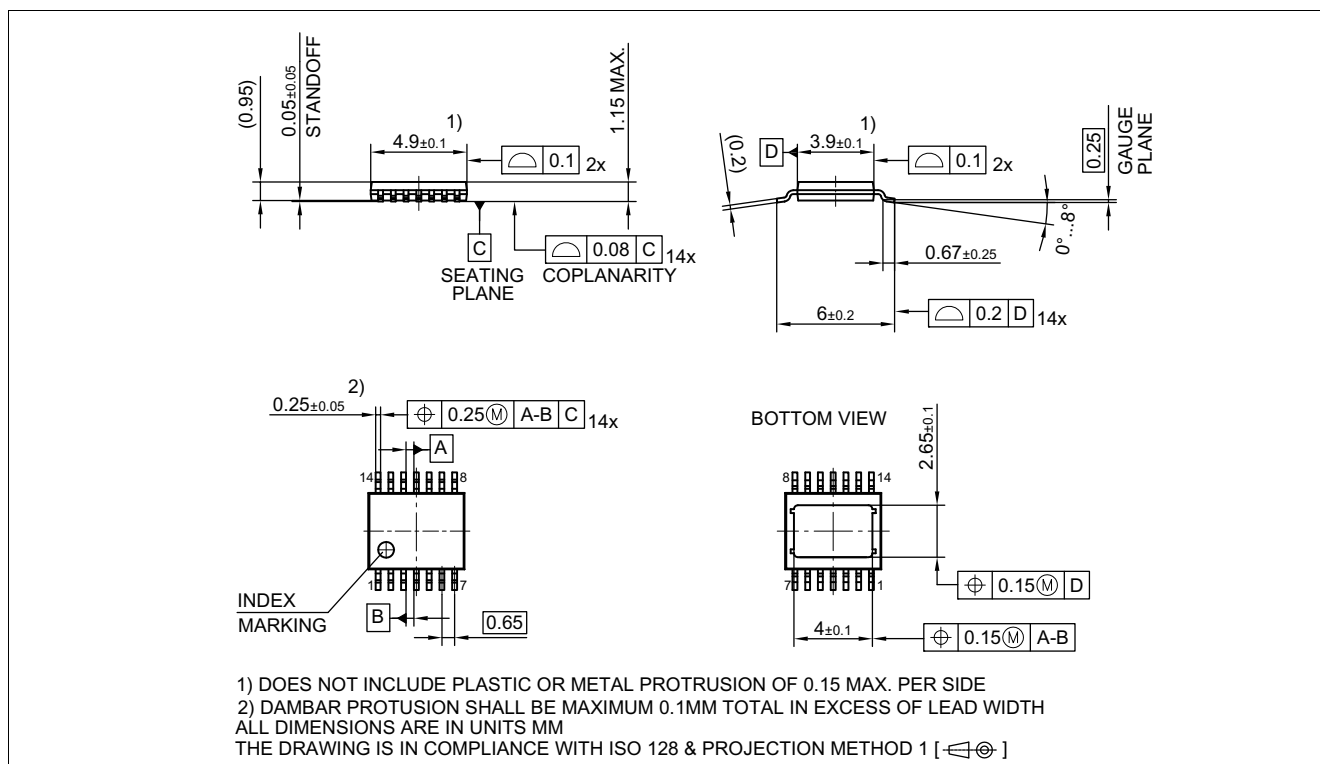
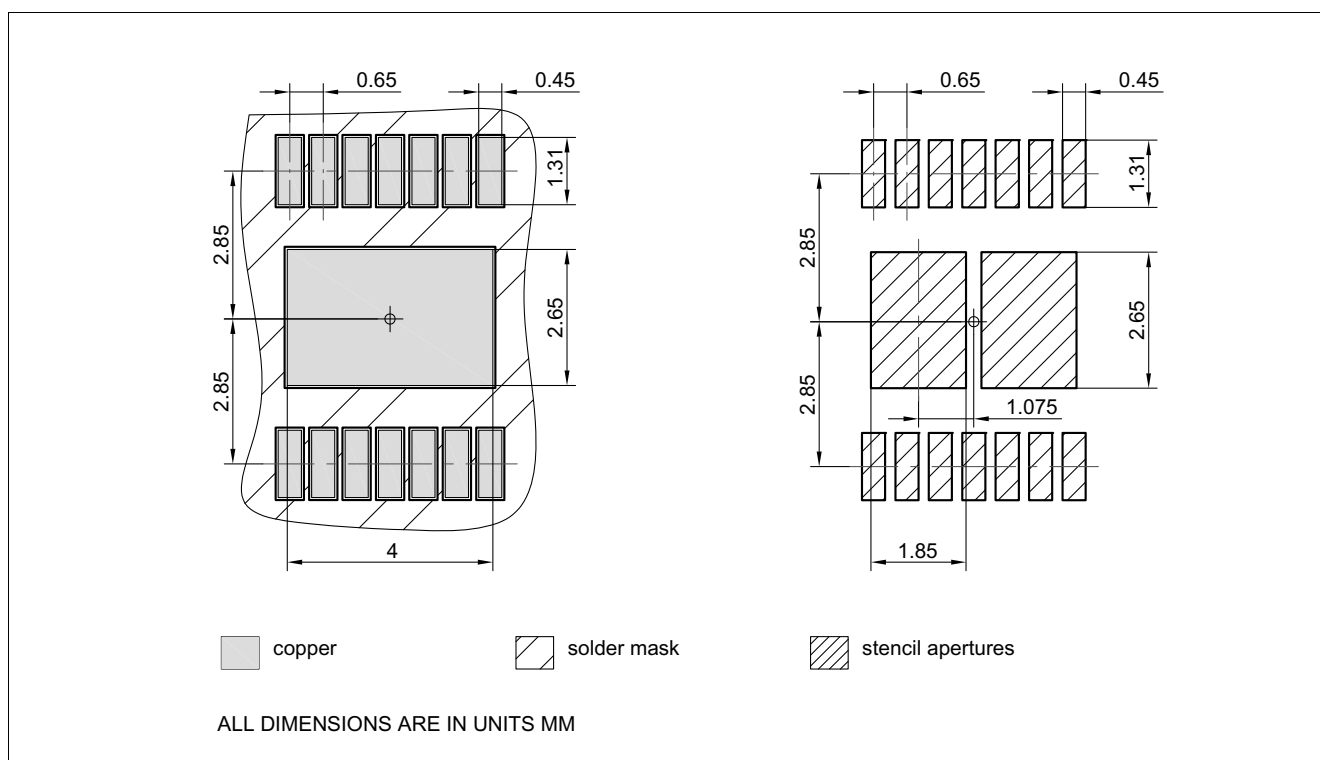

Figure 38 PG-TSDSO-14 (Thin (Slim) Dual Small Outline 14 pins) Package Outline
Figure 39 PG-TSDSO-14 (Thin (Slim) Dual Small Outline 14 pins) Package pads and stencil
1.02 , 2019-02-05	Figure 9, Figure 10 updated Page 1: updated (figure product) Table 22 updated (punctuation) Chapter 9.3, Chapter 9.3.1 updated (typo) Page 1: updated (Package PG-TSDSO-14-22 → Package PG-TSDSO-14) Figure 38 updated (PG-TSDSO-14-22 (Thin (Slim) Dual Small Outline 14 pins) Package Outline → PG-TSDSO-14 (Thin (Slim) Dual Small Outline 14 pins) Package Outline) Figure 39 updated (PG-TSDSO-14-22 (Thin (Slim) Dual Small Outline 14 pins) Package pads and stencil → PG-TSDSO-14 (Thin (Slim) Dual Small Outline 14 pins) Package pads and stencil) Table 1 updated (Parameter: Minimum Overvoltage protection ($T_J = 25\text{ °C}$) → Minimum Overvoltage protection ($T_J \geq 25\text{ °C}$)) Table 1 updated (corrected typo in table Product Summary: $I_{VS(OFF)}$: 1 → 0.4 μA) Table 1 updated (Symbol: $I_{VS(OFF)} \rightarrow I_{VS(OFF)_{85}}$) P_6.5.22.1 updated (Symbol: $I_{VS(OFF)} \rightarrow I_{VS(OFF)_{85}}$) P_6.5.22.2 updated (Symbol: $I_{VS(OFF)} \rightarrow I_{VS(OFF)_{150}}$)